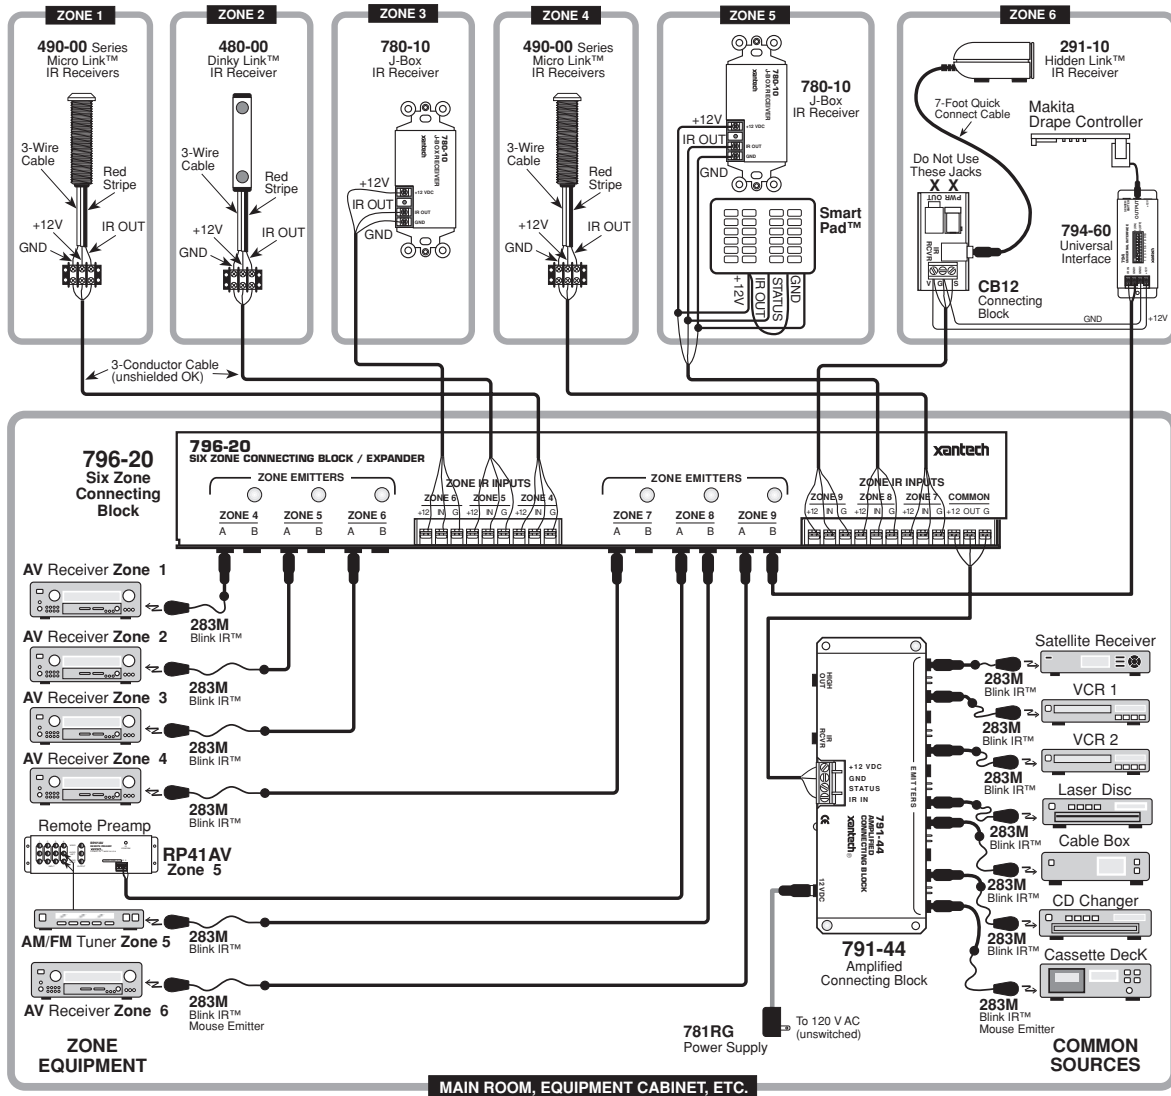
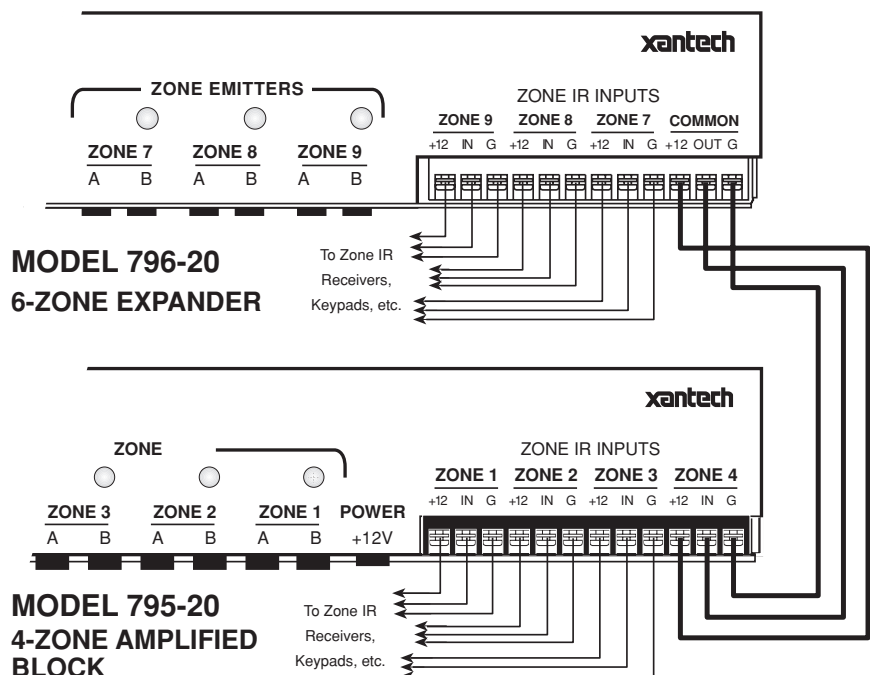

Fig. 2 A Typical 796-20 Six Zone System
Fig. 4 A 796-20 Connected As a Zone Expander For The 795-20
Fig. 2, illustrates a typical installation using the 796-20 in a six zone system. A variety of Xantech IR Receivers and a keypad are shown in the various zones. When configuring a system, please keep the following items in mind:
For example, the power supply needed for the system shown in **Fig. 2** is arrived at as follows:
5. When using fewer than 10 emitters on the 791-44 (common) emitter ports, you may plug them in without regard to order, as shown in **Fig. 2**.
Please Note: The zone numbers for the rooms in **Fig. 2** do **not** agree with the zone numbers marked on the 796-20. The reason for this is that the 796-20 is designed to expand the zones of a 795-20 as shown in **Fig. 4**, in which case the zone numbers do match.
3. COMMON OUT Port. This may be used to drive one single or one dual emitter to operate common components. When more are required, use the COMMON OUT port to drive the input of a 791-44 Amplified Connecting Block as shown in **Fig. 2**. This allows the use of up to 10 single or 10 dual emitters to control the common sources.
Fig. 4 shows the 3-lead connection necessary between the 795 and the 796 for zone expansion of a 795.
- For simplicity, only six zones, 1, 2, 3, 7, 8, and 9 are shown in the diagram. A total of nine zones are possible, each wired with any choice of IR receivers & keypads, in the same manner as shown in **Fig. 2**.
- For simplicity, only three zones on each 796, zones 7, 8, and 9, are shown in the diagram. All six zones of each 796 may be wired with any choice of IR receivers and keypads, in the same manner as that shown in Fig. 2.
- The maximum number of zones using IR receivers is limited only by stray IR noise considerations. See item 1, page 1.